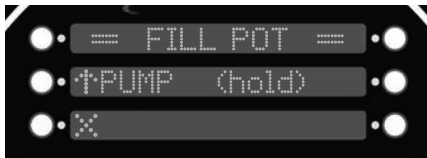

Figure 3-3
*The oil level must always be above the heating elements when the fryer is heating and at the frypot level indicators on the rear of the frypot (Figure 3-3). Failure to follow these instructions could result in a fire and/or damage to the fryer.*
6. The electric model requires 76 lbs. (34.5 kg.) of oil. The frypot has 2 level indicator lines inscribed on the rear wall of the frypot which show when the heated oil is at the proper level. Figure 3-3.